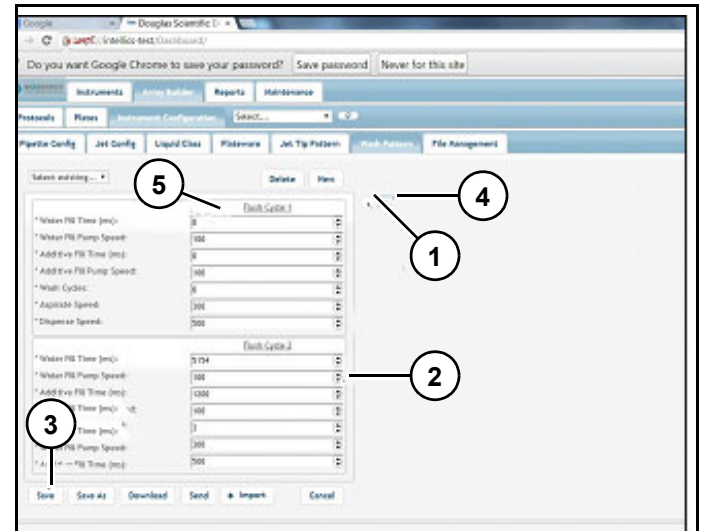

Figure 12
Refer to (Figure 12).
2. Click "Save" (3) (Figure 12) to save changes.